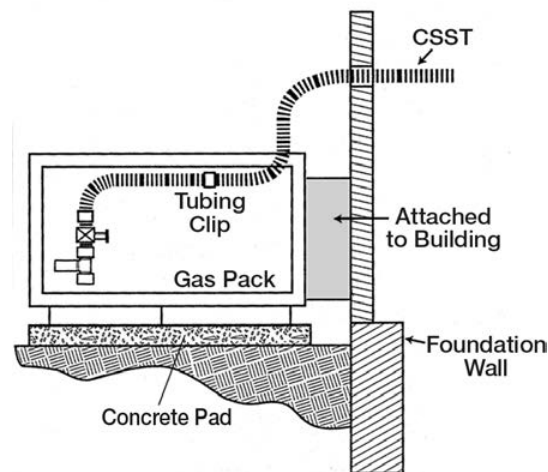

Fig. 4-69
- b) Gas Packs and Other Non-Moveable Equipment (Fig. 4-69) – Can be connected to the Gastite®/FlashShield® CSST system either through a terminating fitting and rigid pipe or directly with Gastite®/FlashShield® CSST connected to the appliance shut-off valve.